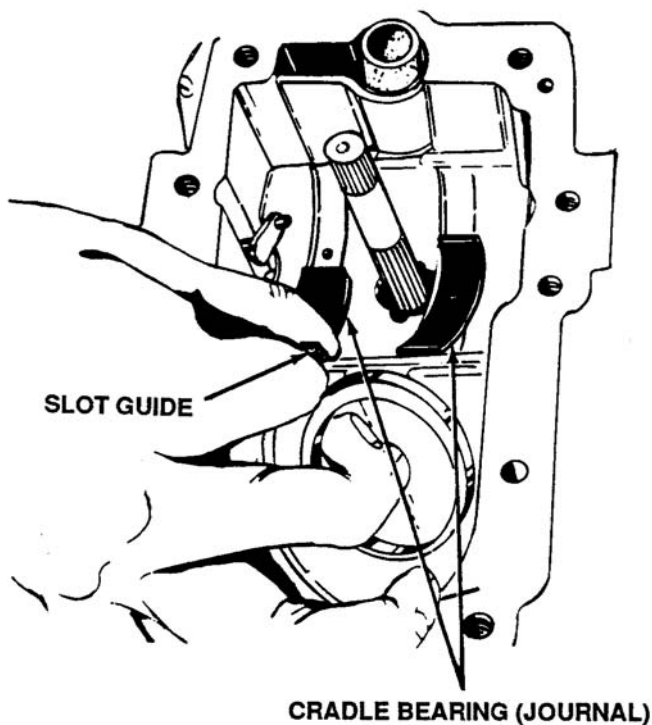

Figure 6-22. Removing Slot Guide and Cradle Bearings
- d. Remove the slot guide and cradle bearings. See Figure 6-22.